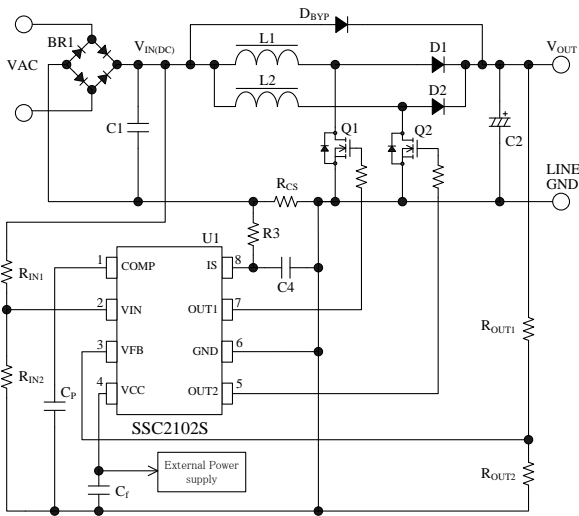

Figure 9-1 IC peripheral circuit
- The symbols of components are defined as shown in Figure 9-1.